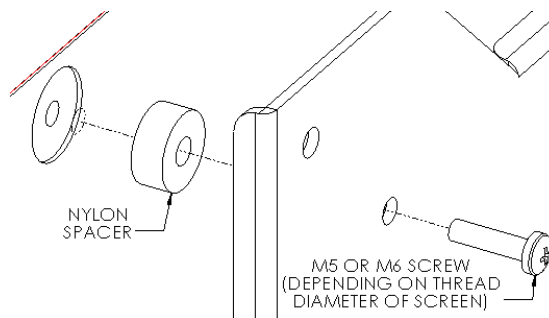

Figure 6
- Place Nylon spacers over mounting holes on back of screen. Attach mounting brackets to the display using either the M5 or M6 screws depending on thread diameter of screen (see Figure 6 & Figure 7a, Figure 7b or Figure 7c).